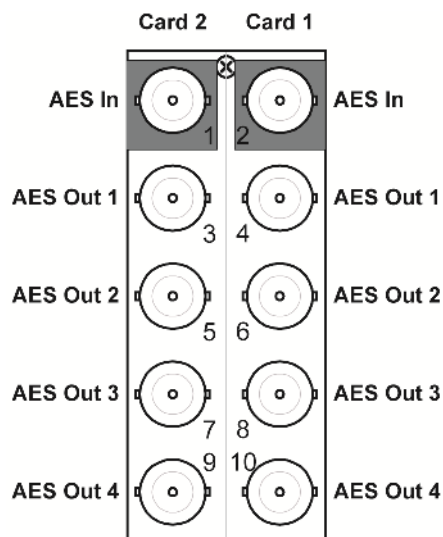

Figure 2.3 Cable Connections for the RM20-9913DA75-A/S Split Rear Module
- **RM20-9913DA75-A/S Split Rear Module** — Each module occupies one slot and accommodates two cards. This rear module provides one AES input and four AES outputs per card. (**Figure 2.3**)